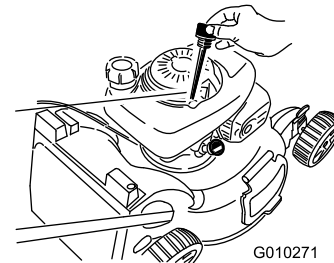

Figure 42
3. Remove the dipstick by rotating the cap counterclockwise and pulling it out (Figure 42).